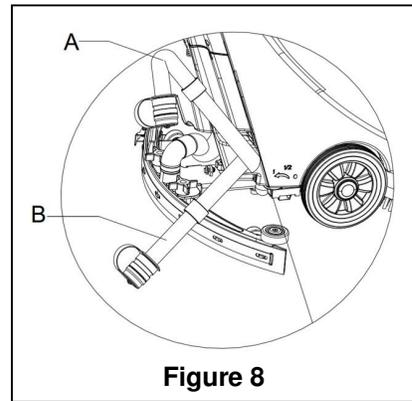

Figure 8
2. Raise the squeegee assembly (14).
4. Grasp the handle (2) and tilt the machine backward until the guide wheel touches the floor.
5. Remove the drain hose from the clip, bend the top end of draining hose (A, Figure 8), and then remove the drain hose cap. Lower the hose to a low level or on the ground to drain the water. Alternatively, place drain hose to a low position or on the ground to make the water outlet face
downward (B, Figure 8), and then twist open the drain cap to drain the wastewater in the tank. After draining is completed, rinse the inside of recovery tank with clean water
When draining the wastewater, the drain hose must be folded or lowered to a lower position (Figure 8 A or B), and the cap removed for wastewater to drain. Do not allow the opening of the drain hose to face upward, as it could get wastewater on the operator..